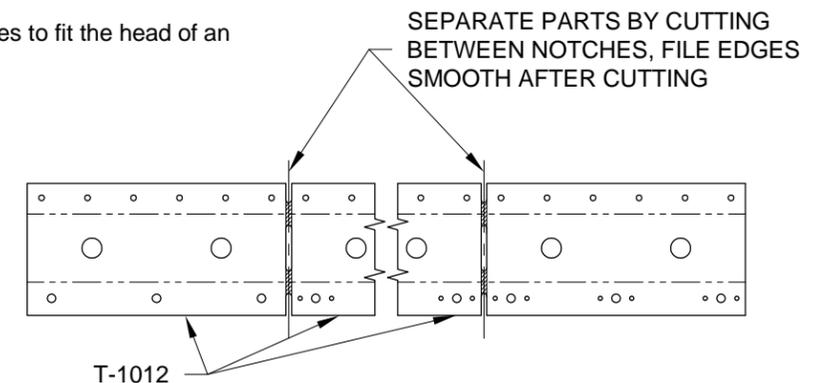

FIGURE 3: TANK ATTACH ZEE TRIM DIAGRAM (SHOWN FLAT FOR CLARITY)
Step 11: Trim T-1012 Tank Attach Zees as shown in Figure 3.